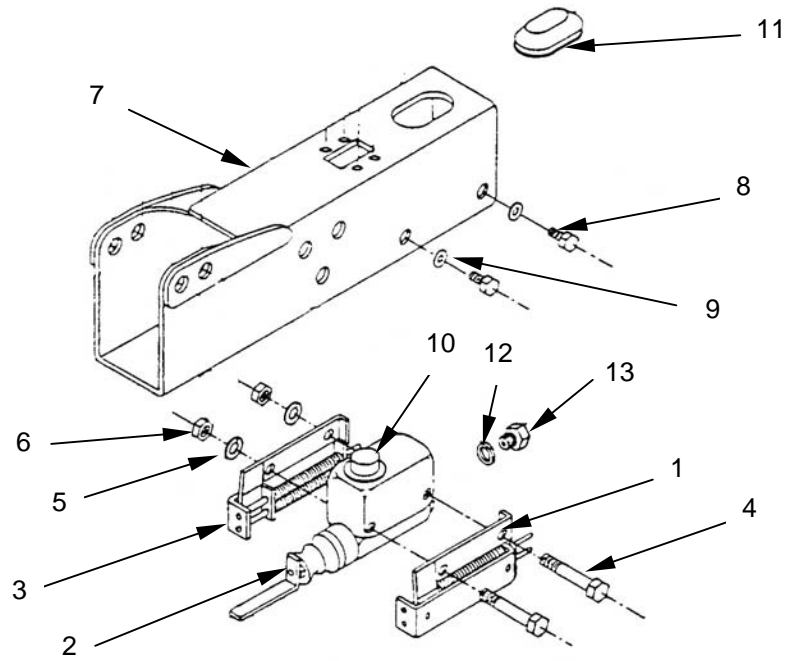

Figure 20. Master Cylinder
- a. Position left hand cylinder bracket (**figure 20, item 1**) against master cylinder (**figure 20, item 2**).
- b. Position right hand cylinder bracket (**figure 20, item 3**) against master cylinder (**figure 20, item 2**).
- c. Fasten left and right hand cylinder brackets to the master cylinder with bolts (**figure 20, item 4**), lockwashers (**figure 20, item 5**), and nuts (**figure 20, item 6**).
- d. Slide master cylinder with right and left hand brackets into the outer case (**figure 20, item 7**).
- e. Secure the master cylinder assembly with the four bolts (**figure 20, item 8**) and lockwashers (**figure 20, item 9**).
- f. Screw the cap (**figure 20, item 10**) onto the master cylinder.
- g. Install o-ring (**figure 20, item 12**) and orifice connector (**figure 20, item 13**) to master cylinder.
- k. Install cylinder cover (**figure 20, item 11**). Bleed brake system lines in accordance with brake fluid filling and bleeding procedures within this Work Package.